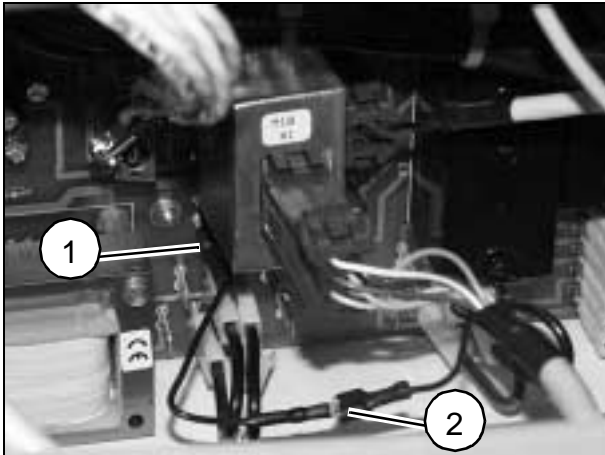

Fig. 1
- Plug the supplied ground wire extension into board D1 (1/Fig. 1).
- Connect the ground wire extension to the ground wire (2/Fig. 1).